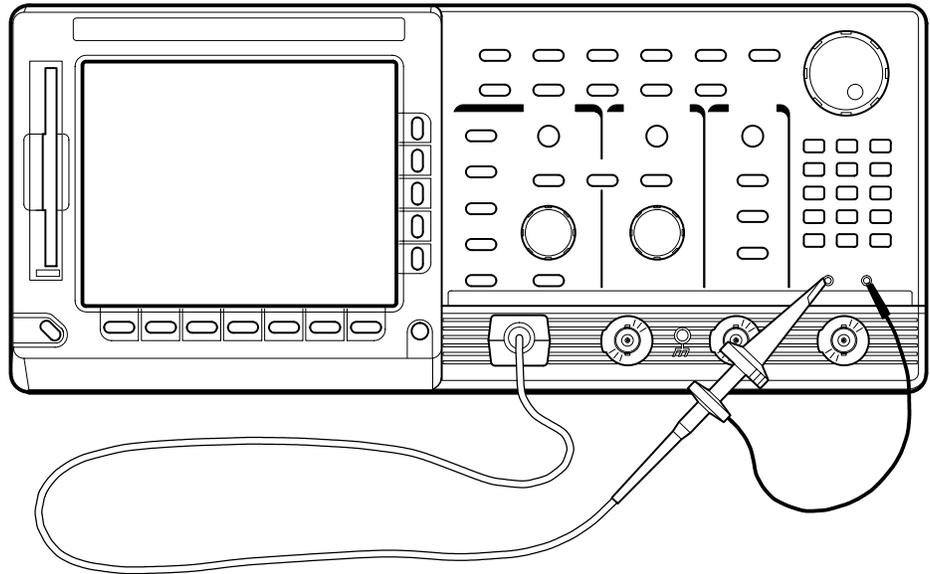

Figure 5–2: Hookup for Probe Compensation
- a. *Hook up test-signal source:* Install the optional-accessory probe to **CH 1**. Connect the probe tip to **PROBE COMPENSATION SIGNAL** on the front panel; connect the probe ground to **PROBE COMPENSATION GND** (See Figure 5–2).